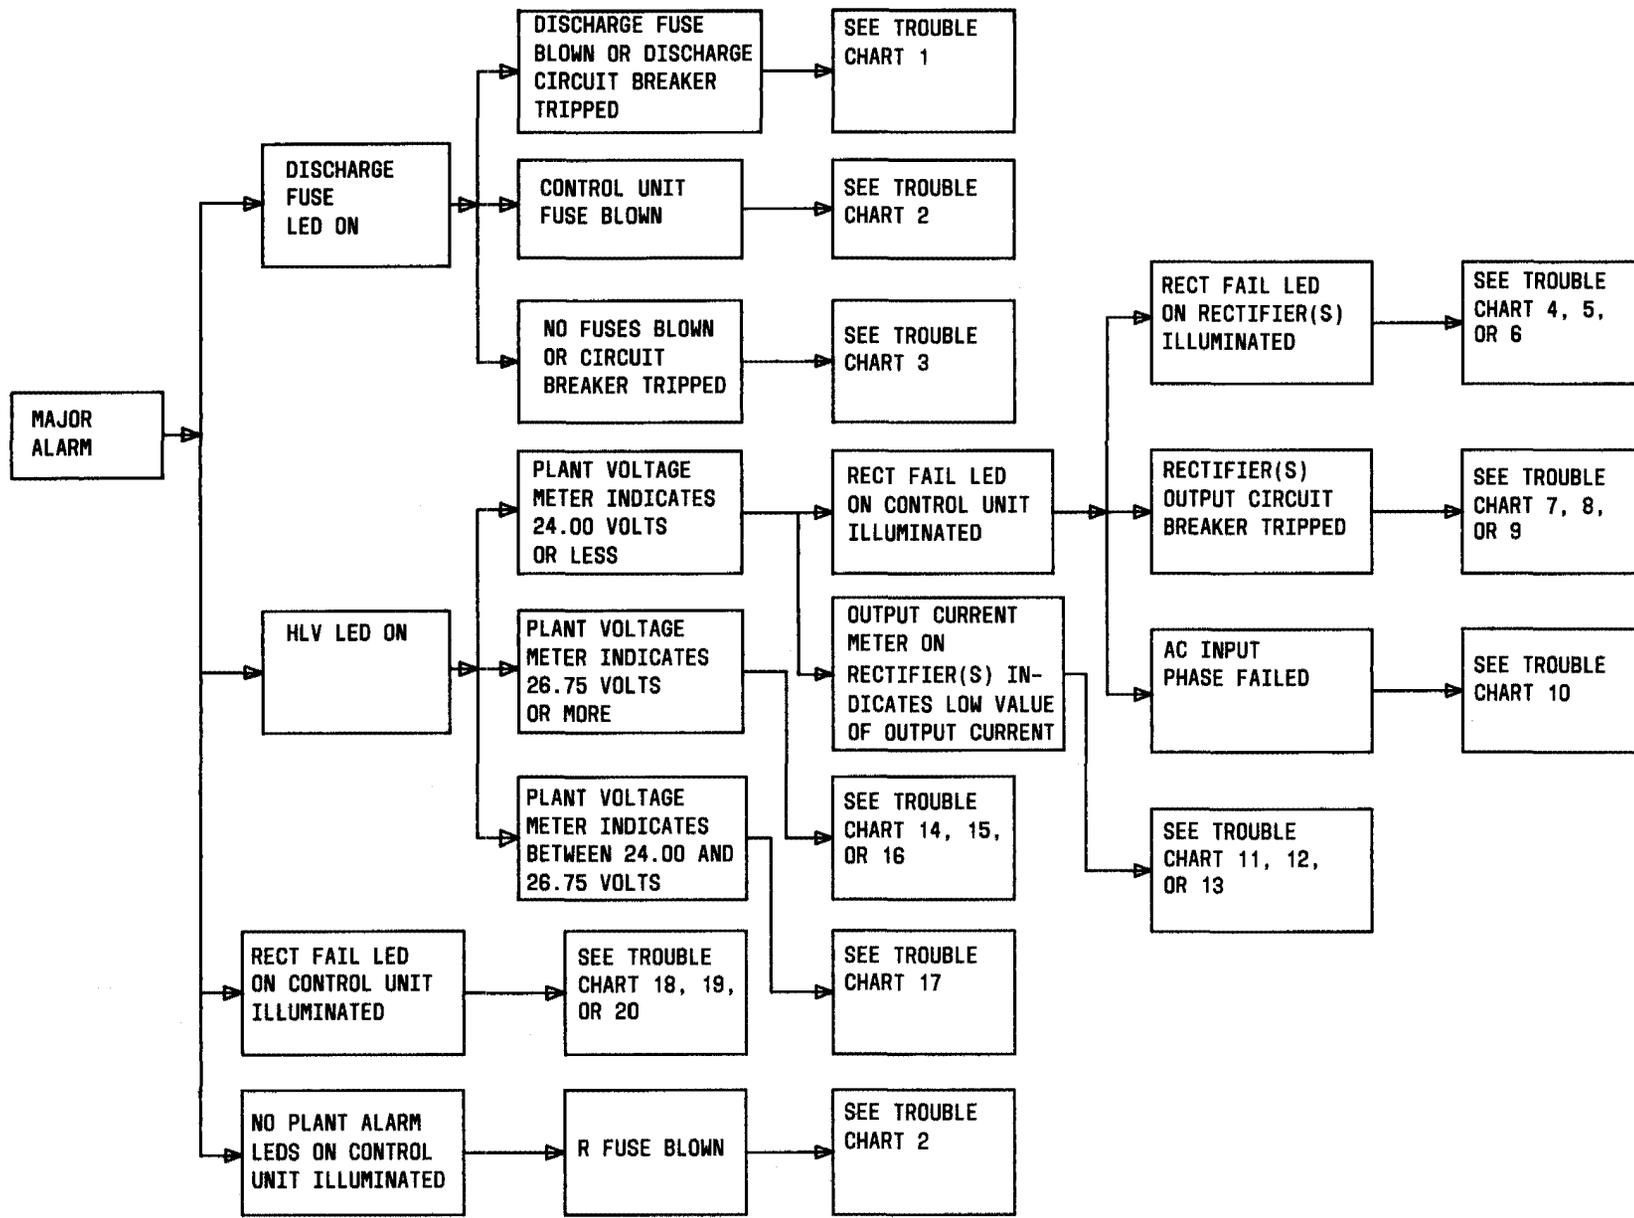
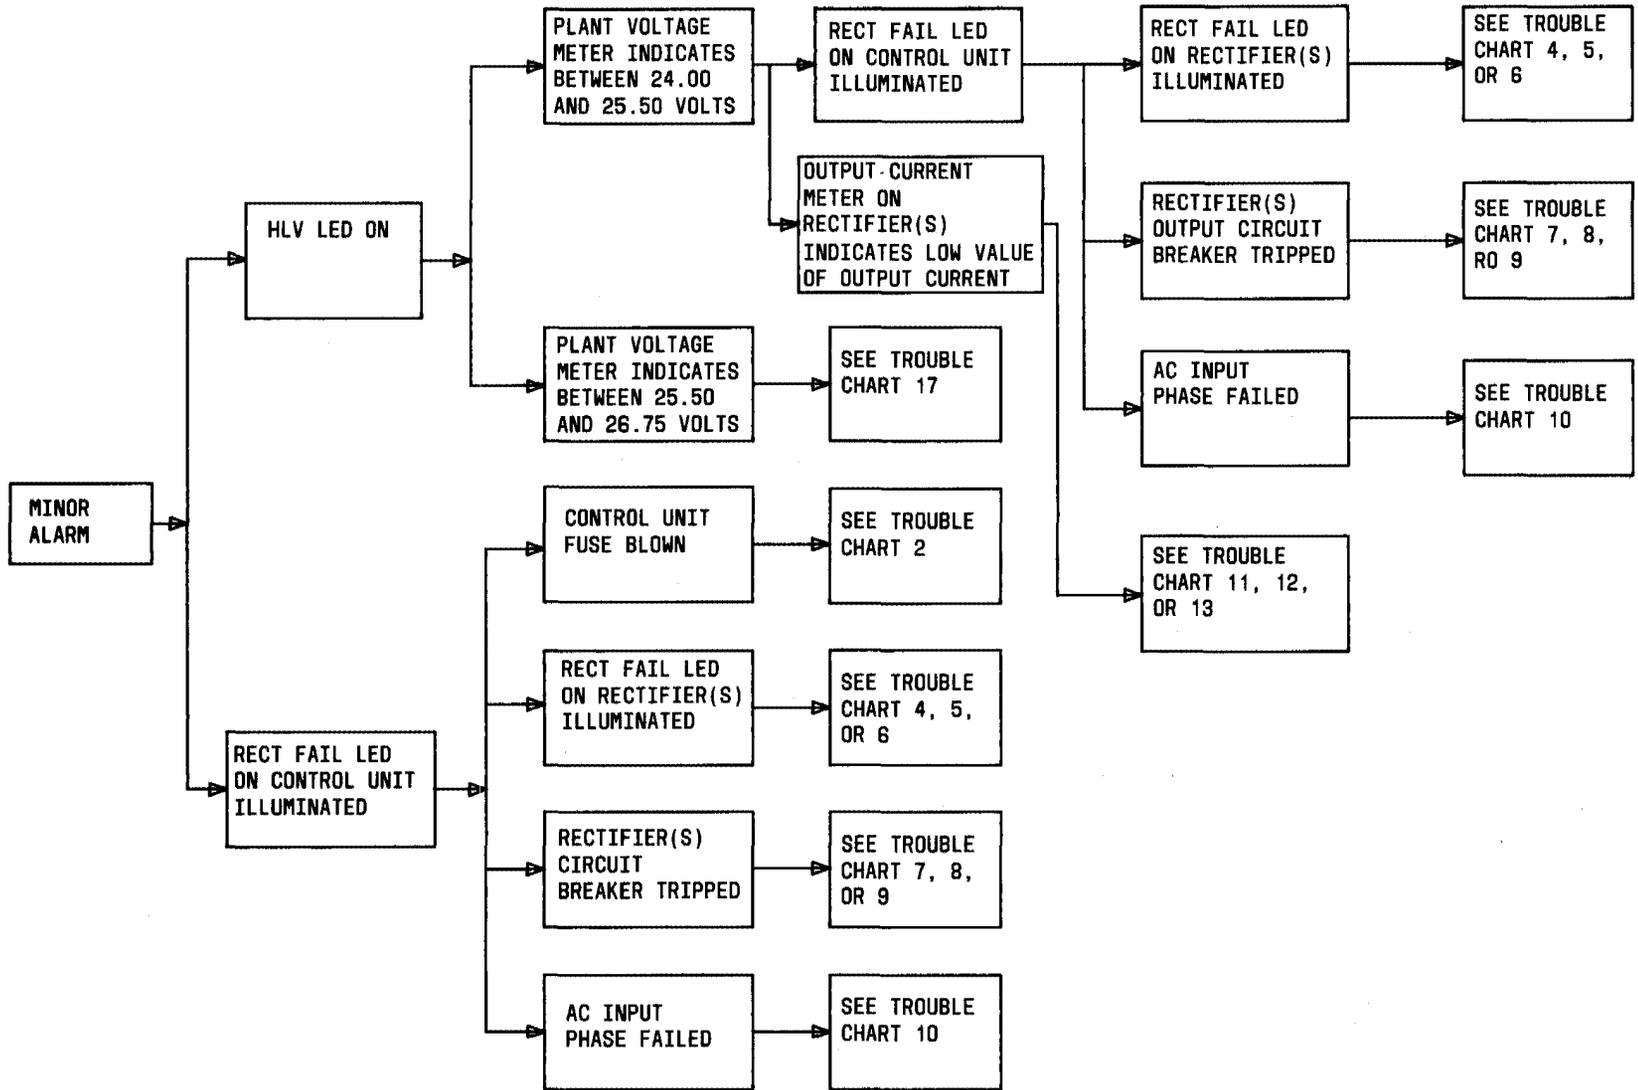

Fig. 13—Plant Trouble Flowchart—Major Alarm
Fig. 14—Plant Trouble Flowchart—Minor alarm
8.02 To assist in locating the correct trouble chart when an alarm has been given, the trouble flowcharts of Fig. 13 and Fig. 14 are provided. In general, equipment should be visually inspected for faulty connections, shorts, broken wires, and burned components. It is suggested that the probable causes of troubles listed in the trouble charts be checked in the order given. If the trouble cannot be located and corrected with the assistance of the trouble charts, then refer to the proper schematic diagrams and circuit descriptions for further information (see paragraph 1.07). After a repair has been made, the equipment repaired should be verified to be operating properly by following the appropriate test procedures in Part 5.